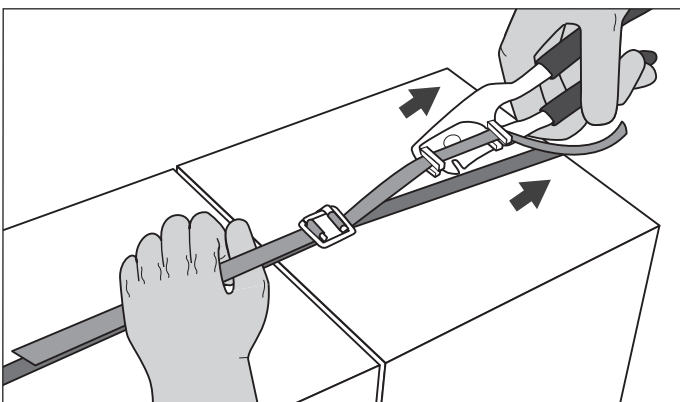

Figure 2
2. Pull the Tightener/Cutter until poly strapping is tensioned as needed. If necessary, hold down opposite side of strapping with gloved hand to prevent slipping. (See Figure 2)